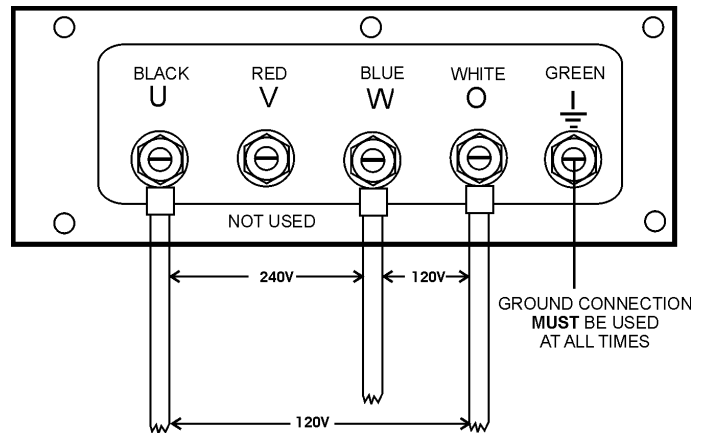

Figure 30. Output Terminal Lugs 1Ø-240/120V Connections
2. Connect the load wires to the **Output Terminal Lugs** as shown in Figure 30.